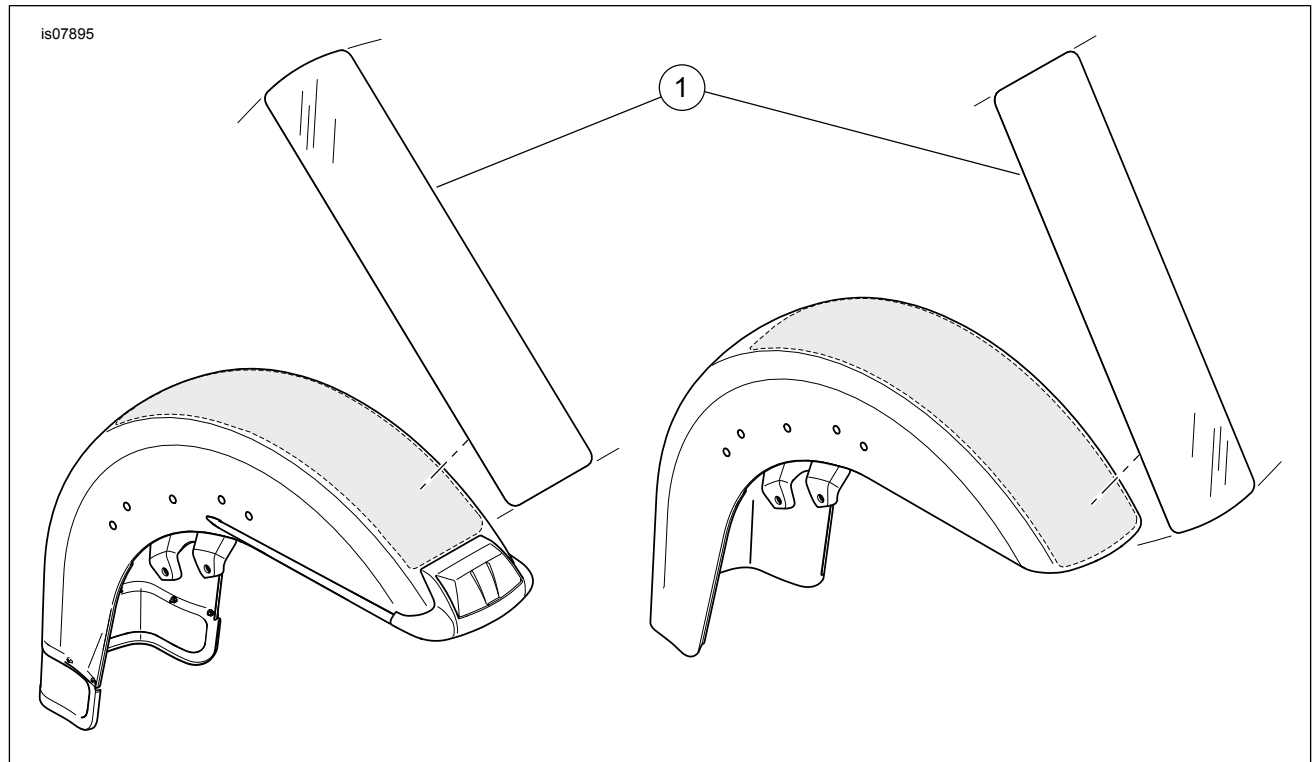

Figure 2. Service Parts: Paint Guard Kit
2. See Figure 2. Wash all mounting areas thoroughly. Allow to dry completely.
- See Figure 2. Identify each paint guard piece and its mounting location before proceeding.